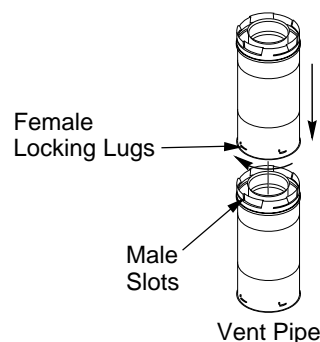

Figure 24 - Vent Pipe Connections
twist one section clockwise approximately one-quarter turn until the sections are fully locked. See Figure 24, page 14.
2. Assemble the desired lengths of pipe and elbows necessary to reach from the burner system flue up through the firestop. All connections must be sealed with high temperature silicone sealant as specified in the second warning statement on page 12. Be sure all pipe and elbow connections are fully twist-locked (see Figure 24, page 13).